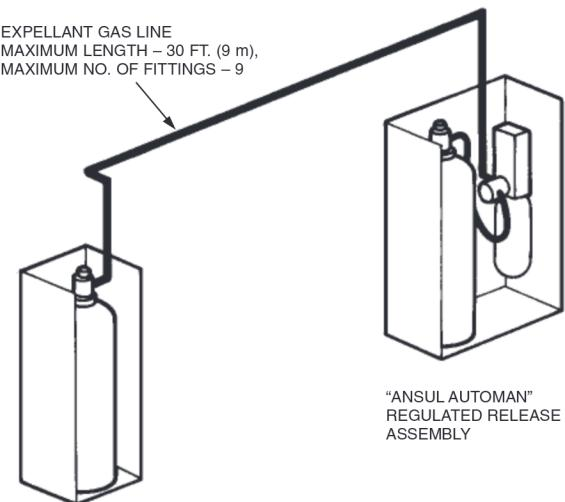

FIGURE 83
1. The expellant gas line piping is installed from the regulated release mechanism in double and multiple-tank systems, and from the regulated actuator assembly in multiple-tank systems. The expellant gas line is the piping between the regulator and the tank-enclosure/tank-bracket assembly. The total length of the expellant gas line from the regulated release mechanism or each regulated actuator assembly **must not exceed** 30 ft. (9 m) when using a "double-tank" cartridge, an LT-A-101-30 Cartridge, or a 101-30 Cartridge. See Figures 83 and 84.